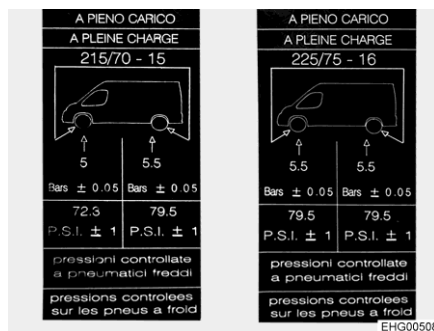

Fig. 116 Tyre pressure information sticker on B column (example)
- ▷ Information stickers with the required tyre pressure are attached to the inside of the B column (see Fig. 116).